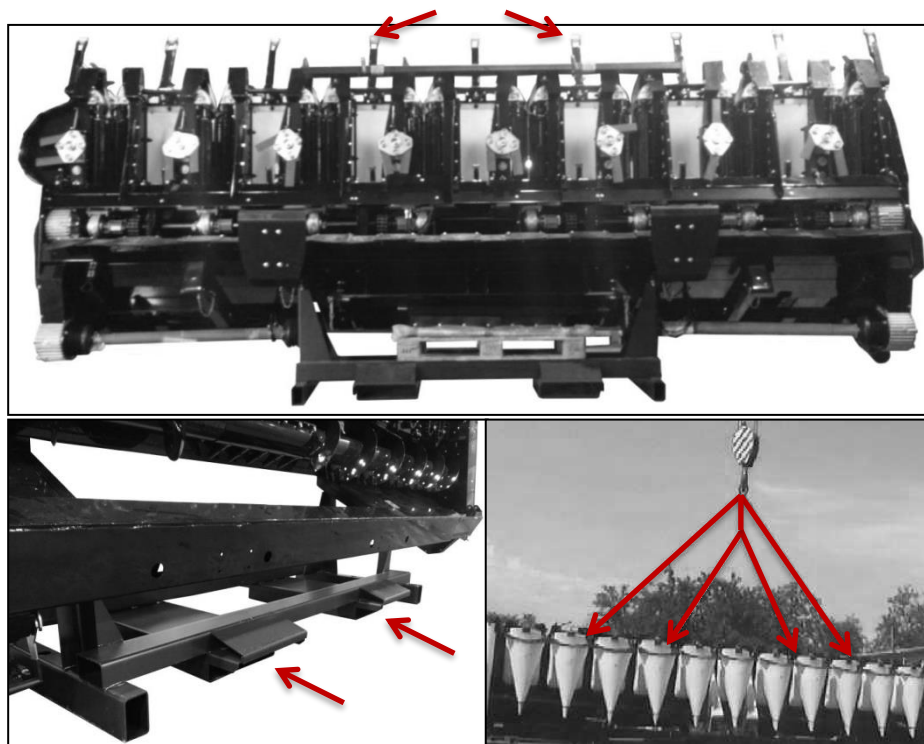

Figure 1: Head stand lifting point (bottom left) and lifting bars (top and bottom right).
- 2.1. The header can be lifted with either a forklift, or via a crane (Figure 1).
- 2.3. When lifting a 12 row header, use four cables as shown in bottom right of Figure 1.